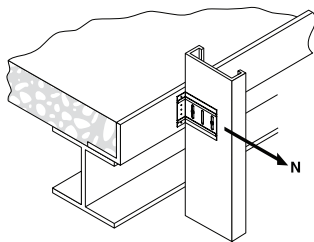

Figure 7:
- Allowable load based on a safety factor of 5.0 in direction shown in Figure 7 for attachment of deflection slip clip to 3000 psi Lightweight Concrete Slab with 12 GA. sheet steel pour stop with minimum yield strength F_y = 33 ksi.